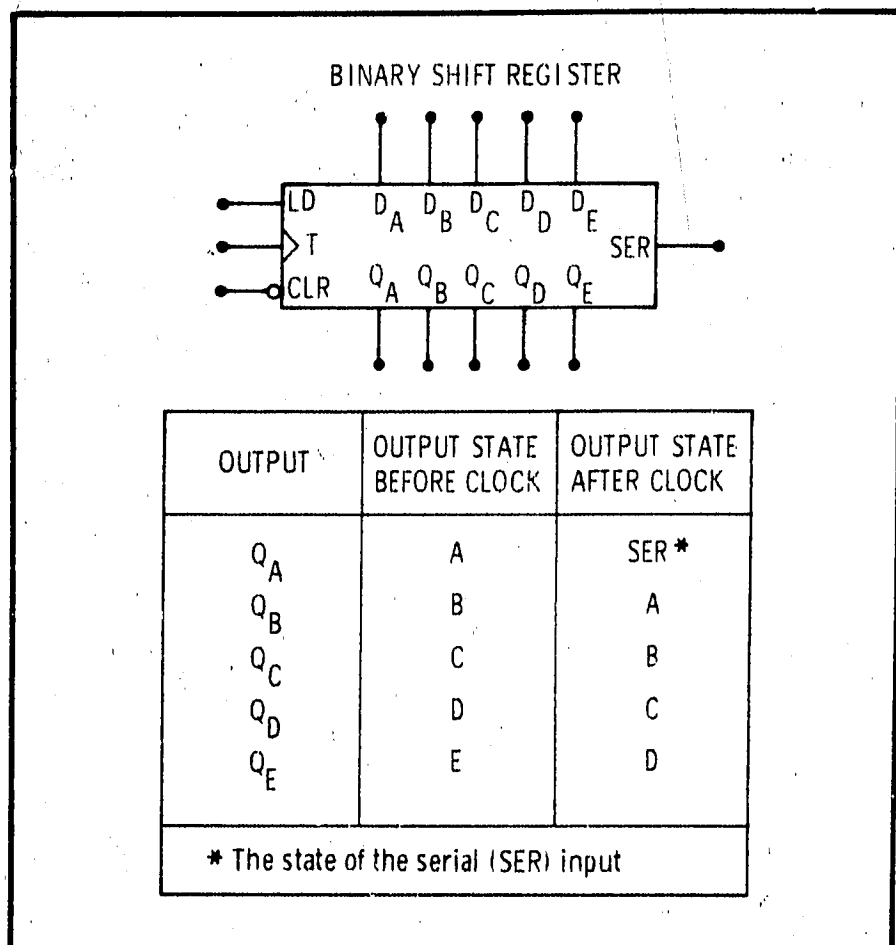

Figure 8-5. Binary Shift Register
**8-29. Binary Shift Register.** A five bit binary shift register is shown in Figure 8-5. Information of the data ( $D_n$ )\* inputs is transferred to the respective  $Q_n$ \* outputs when the load (LD) input is high. The load input is independent of the clock (T) input.